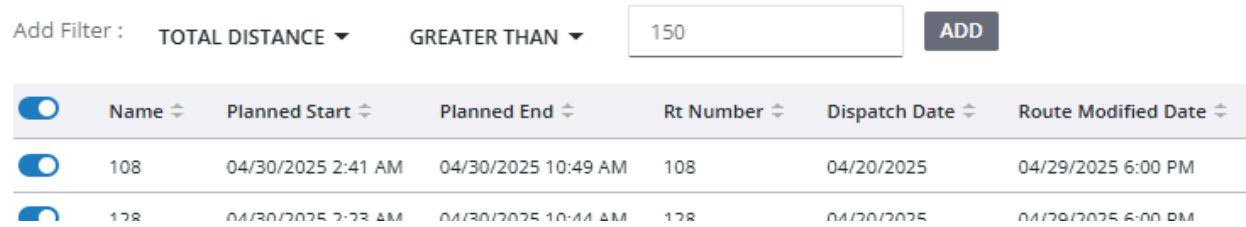

Figure 53 - Advanced filtering example
2. Select / deselect Routes using the blue toggles to the left of each Route (see *Figure 53* below).